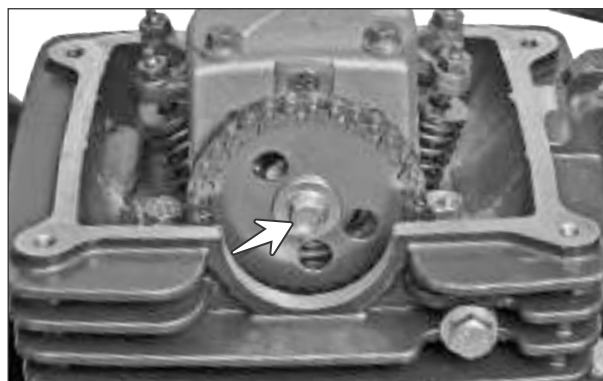

Fig. 3.37
- Now, remove the hexagonal flange bolt (M8x1.25 LH) from the cam shaft assembly. (Fig. 3.37)